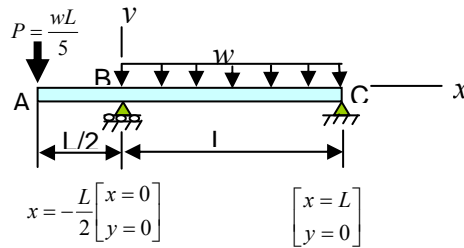

Figure 4
- (b) For the beam and loading shown in Figure 4, determine